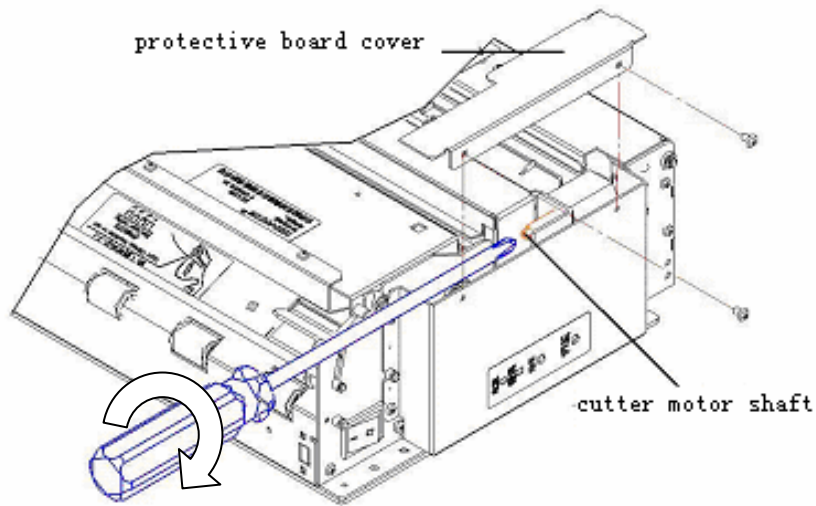

Figure 5.1 Manually reset cutter
- 3) Use cross screwdriver to rotate motor shaft, push cutter guider forward (or there is big gap between upper and nether blade) as figure 5.1.